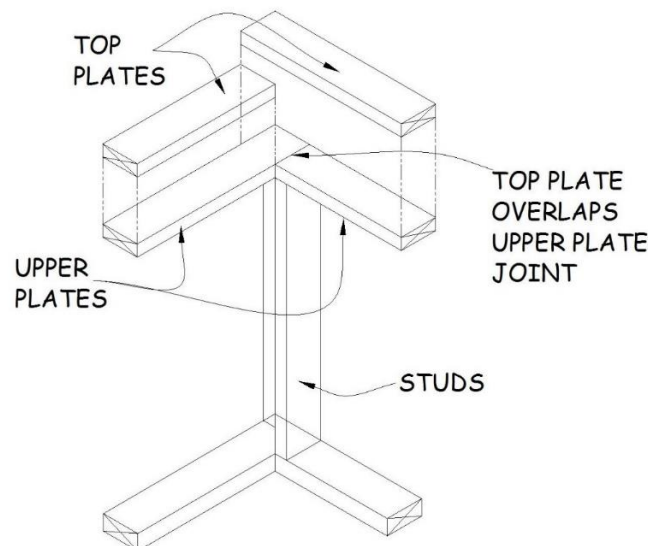

Figure 5-4. Interior Wall Top Plate Installation.
6. When nailing top plates, use three 16d (or 3¼” Paslode) nails across 2x6 plates and two 16d (or 3¼” Paslode) nails across 2x4 plates. Nail at each intersection of top plates and nail at each stud location. Note that the top plates at an intersection overlap the joints of the walls below (see Figure 5-4).